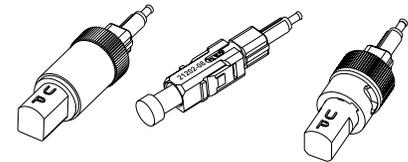

Figure 5-10
*Leave the front dust cap ON if you are not using the CTS system (Figure 5-10).*